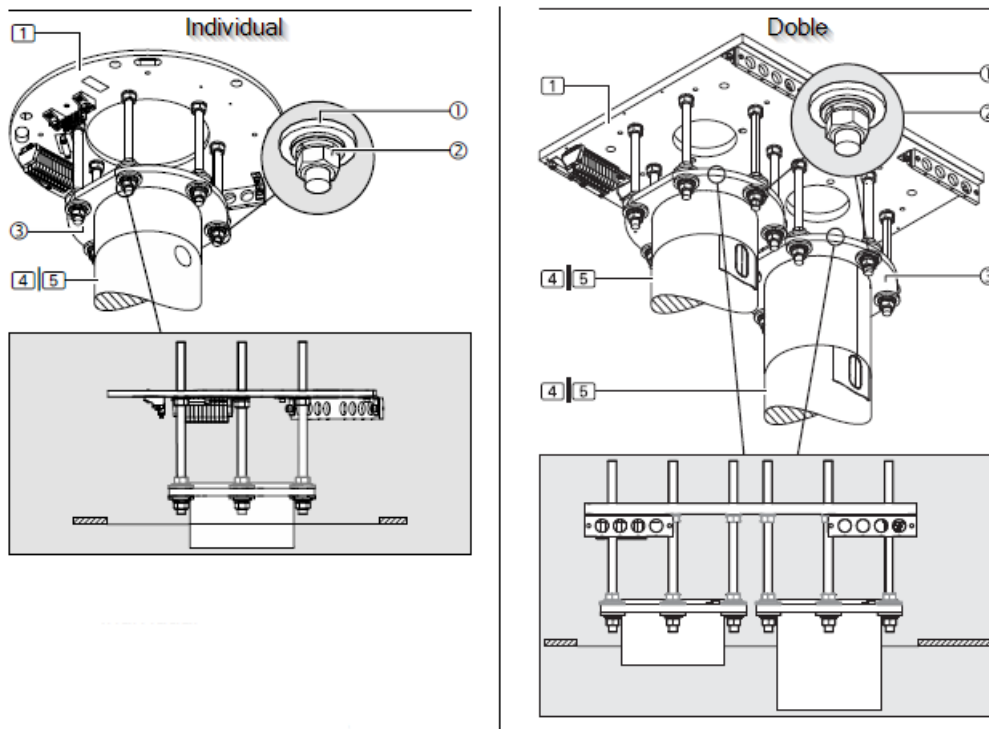
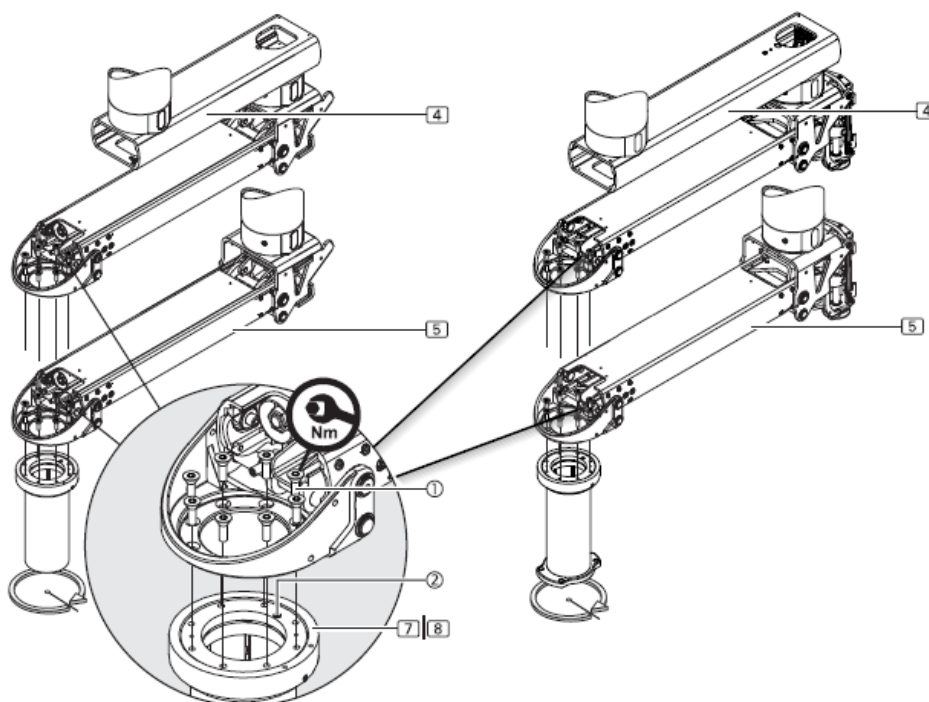

Fig. 31 Alignment of the arms with the Interface plate
Fig. 34 Assembly of drop tube on motorised and spring-loaded arms
For motorised or spring-loaded arms. Figure 31 shows an enlarged section view of the motorised arm (on the right in Fig. 34) and the spring arm (on the left in Fig. 34) without its upper part.
- Position the drop tube under the arm (4) / (5) so that the end stop ④ on the drop tube points away from the side of the extension arm and the fixing holes are aligned.
- In order to be able to rotate the service head counterclockwise, the drop tube must be mounted with the end stop ② on the right-hand side, as shown in figure 31. It shall be mounted on the left side if the service head is to be able to rotate clockwise.
- Fix the drop tube through the 8 x M10 fixing plate ③ and screw it to the extension arm (4) / (5) with 8 countersunk Allen screws ①.